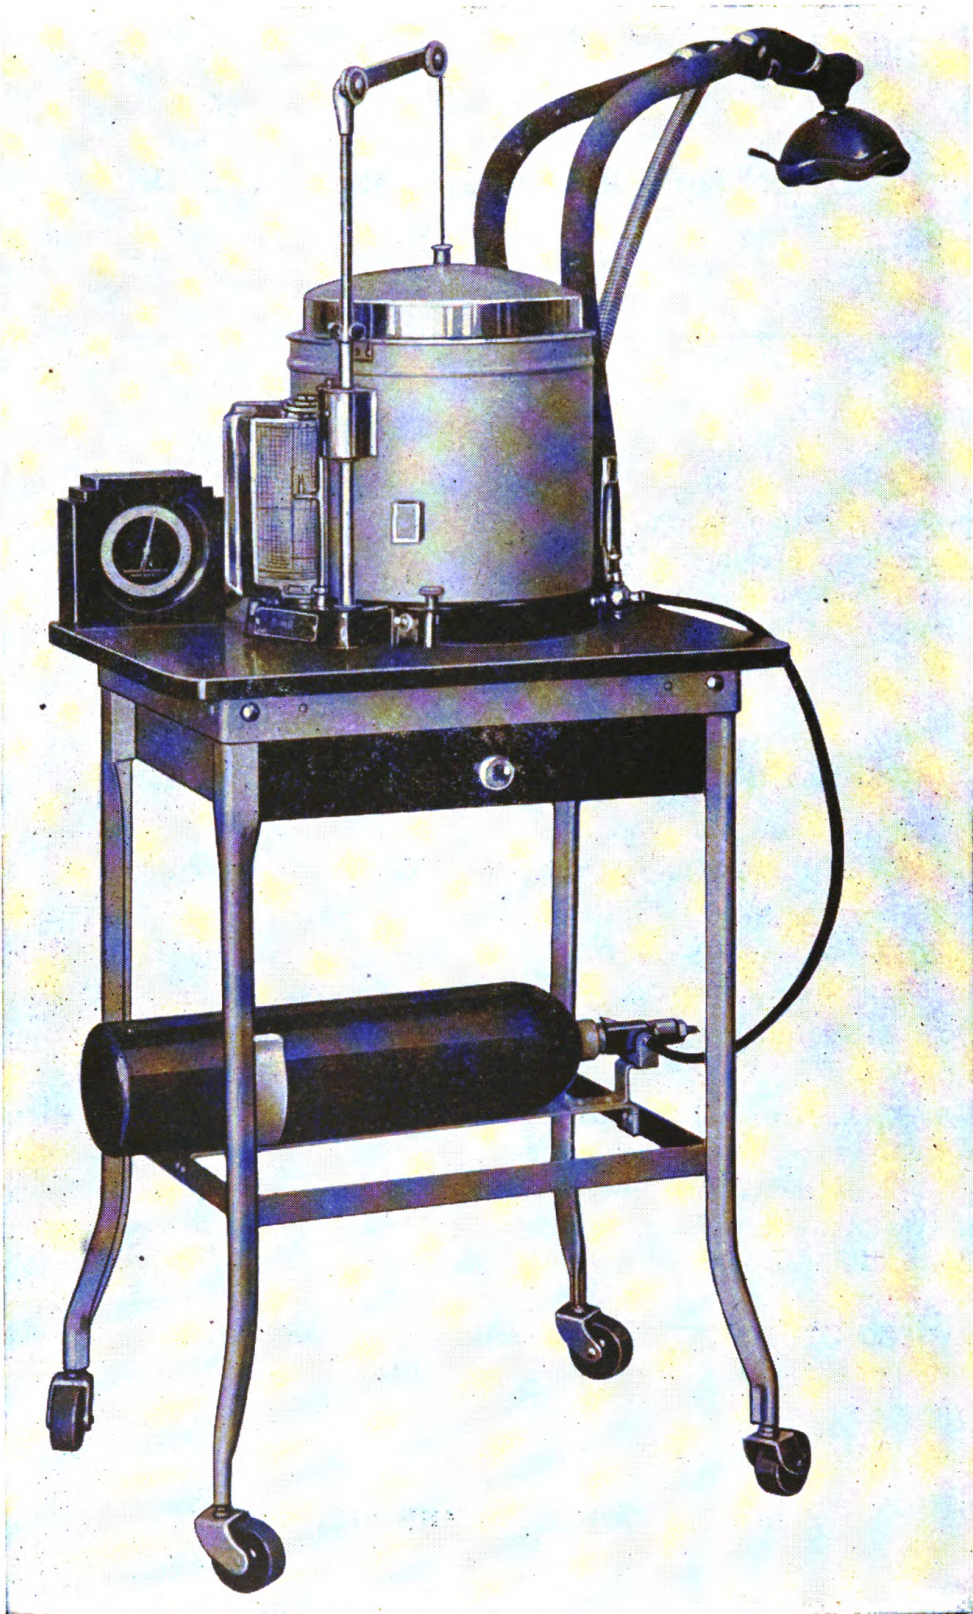

Figure 1. McKesson Recording Water Type Metabolator Model No. 176.
7. CONTROLS. a. Toggle switch. The toggle switch (fig. 1) at the base starts and stops the chart.
b. Oxygen stopcock. The stopcock (fig. 1) is at the base of the apparatus near the thermometer. It regulates the flow of oxygen into the bell.
8. INSTRUMENTS. a. Thermometer. The thermometer (fig. 1), at the base, indicates the temperature for use in calculating the metabolic rate of the patient.
b. Barometer. The barometer (fig. 1), which is separate, indicates the barometric pressure for use in calculating the metabolic rate of the patient.